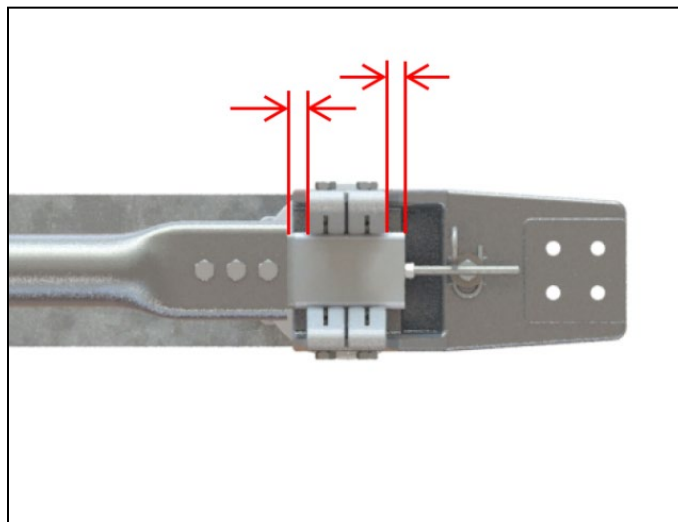

Figure 3: Contact Blade Centered Among Contact Fingers
- 1.6.3. Mount the jaw contact assembly to the insulator and temporarily leave the bolts loose. Close the switch blade into the contacts, checking for alignment as shown in **Figure 3** and **Figure 4**. Bolt hole tolerances will typically be sufficient to align the contacts properly. However, shims can be used to tilt the insulator as required. Tighten jaw insulator bolts once alignment is confirmed.
- 2.1.1. The jaw contact fingers must be centered on the blade tip as shown in **Figure 3**. If necessary, use shims to tilt the insulator fore or aft to align these parts.